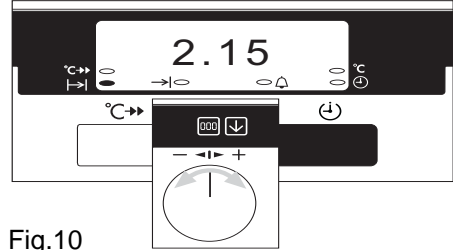

Fig.10
- iv) To set the length of cooking time, press the Time Selector button until the 'Cook Time' (  ) indicator neon is illuminated. Turn the main oven increase/decrease selector (  ) until the required length of cooking time is displayed, e.g. 2 hrs 15 mins as Fig. 10.